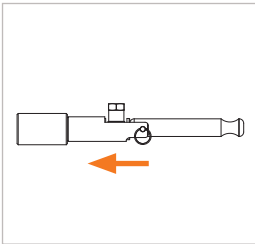

Figure 3
- ▶ Grip the connector by its base unit (Pos. 1) and plug it up to the stop straight into the test piece (Figure 3). Doing so will prevent any damage to the front seal caused by any sharp edges on the test piece and ensure a correct connection.